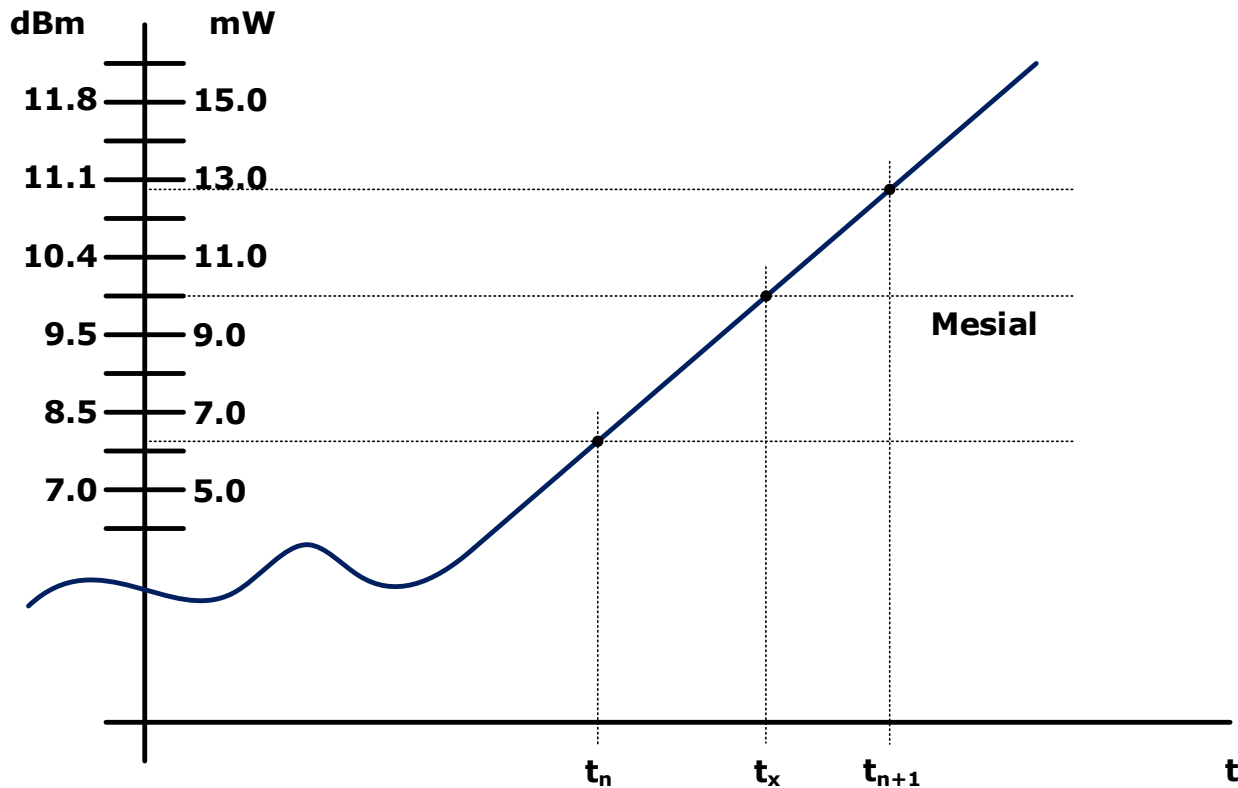

Figure 6.3 Time Interpolation example
10. The process determines horizontal position, in pixels, at which the signal crosses the mesial value. This is done to a resolution of 0.1 pixel, or 1/5000 of the screen width. Ordinarily, the sample values do not fall precisely on the mesial line, and it is necessary to interpolate between the two nearest samples to determine where the mesial crossing occurred. This process is illustrated in the example shown in Figure 6.3.